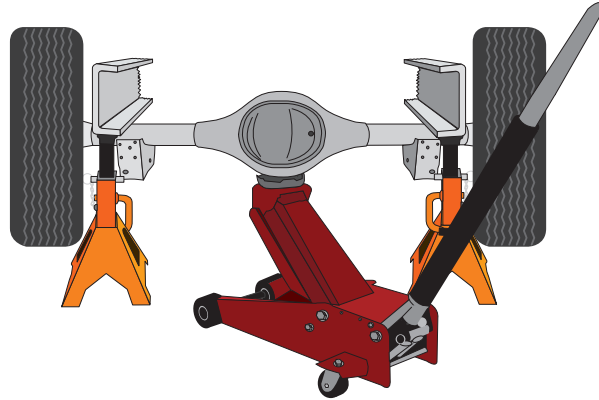

fig. 2
1. Raise the vehicle and support the frame with safety stands, drop the axle down to make room for the air spring assemblies to be put into position between the frame and axle (Fig. 2).